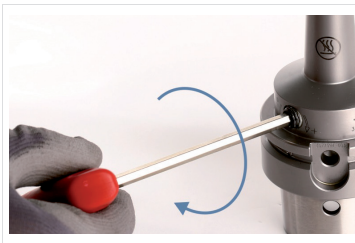

Fig. 11: Clamp the tool
4. Turn the clamping screw **up to the stop** using an hex-wrench with T-handle (see Fig. 11: Clamp the tool).